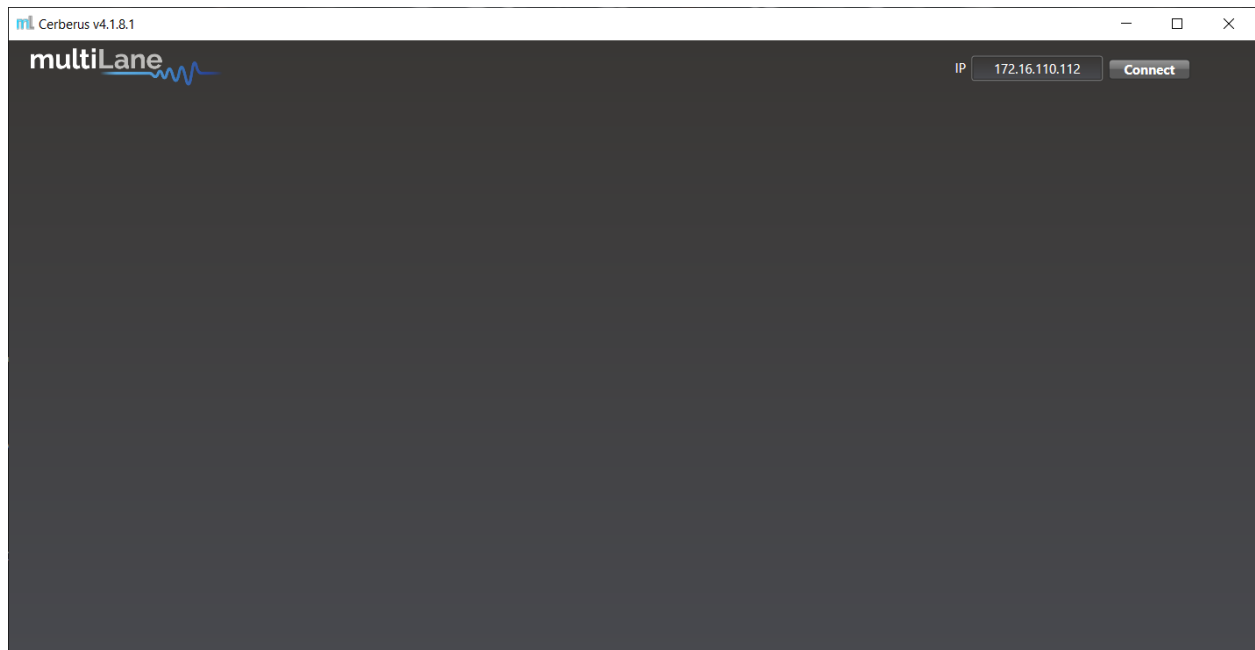

Figure 2: Connection box
| Figure 2: Connection box | 8 |
- **Connect** using the IP address of the target instrument(s) (Figure 2). The IP address is printed on the back side of the instrument.